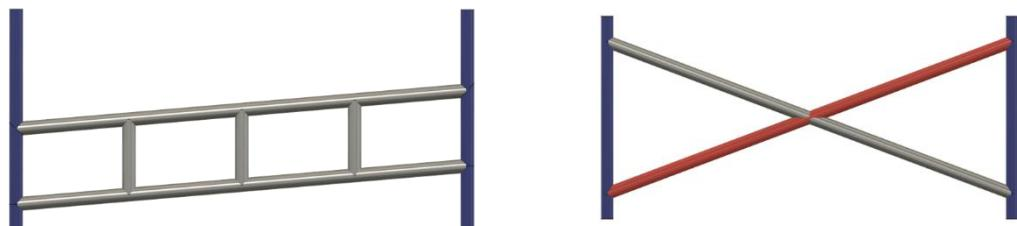

Figure 9
- B. The door bars may run parallel, or in the shape of an "X". Refer to Figure 9.